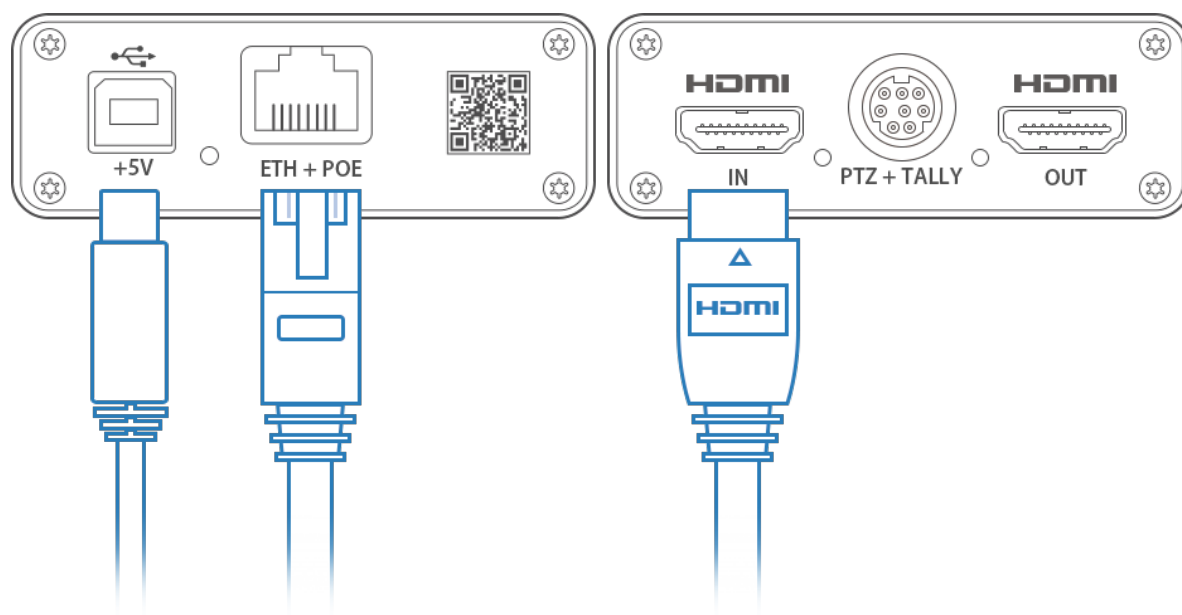

Figure1. Connections
**Step 1** Connect your converter via Ethernet and power it up as shown on the left - Figure1. Connections.